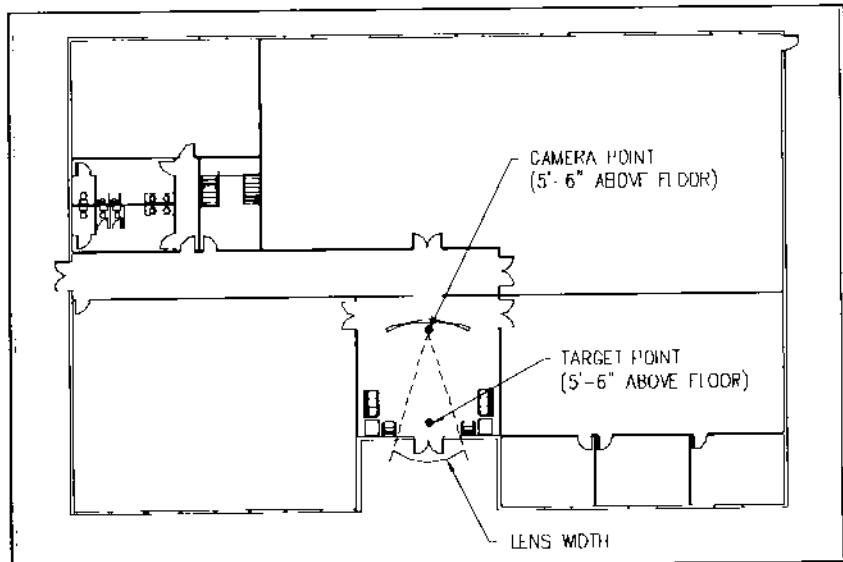

Figure 4.
2. Pick a target point near the entry door and a camera point near the center of the custom curved wall as shown in Figure 4.
- > Pick target point in plan or Eye/Target/Lens: [pick target point as shown in Figure 4]
- > Pick camera point in plan: [pick camera point as shown in Figure 4]